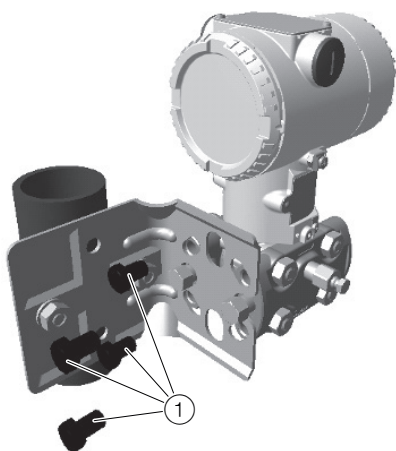

Figure 5: Fastening screws
4. Unscrew and remove the 4 fastening screws (Figure 5, Pos. ①), with which the transmitter is bolted onto the fastening bracket or valve manifold.